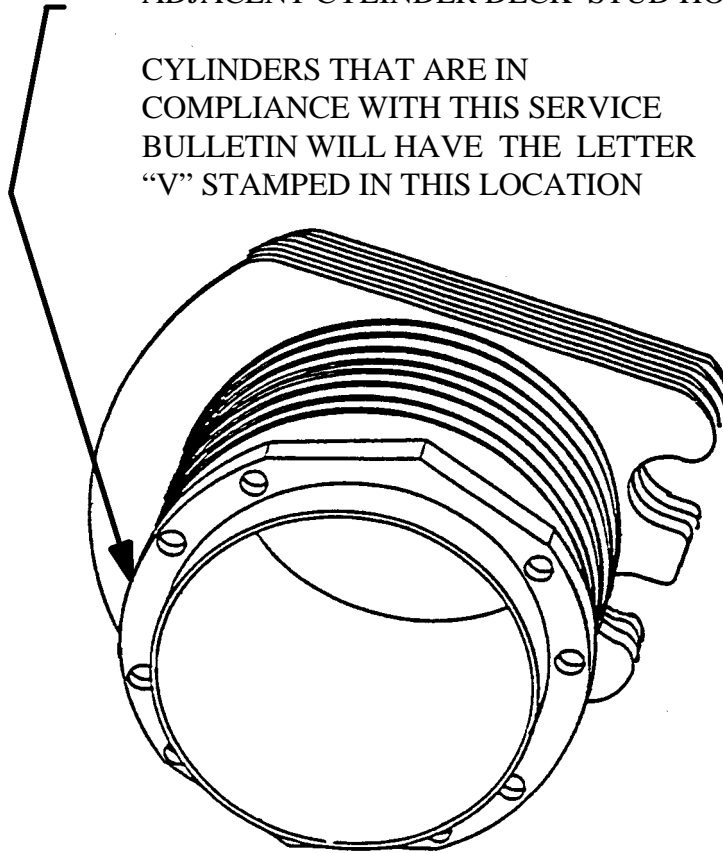

FIGURE 3
CYLINDERS IDENTIFIED WITH A 1/8th INCH HIGH LETTER “V” STEEL STAMPED AT THE 12 O’CLOCK POSITION ON THE CYLINDER FLANGE ARE IN COMPLIANCE WITH THIS SERVICE BULLETIN. REFER TO FIGURE 3. THESE CYLINDERS DO NOT REQUIRE ANY ADDITIONAL INSPECTION.
7. Assemble cylinder(s) with valves having roll-stamped or vibro-etched date code as herein described in accordance with the applicable CM Maintenance and Overhaul Manual. Mark cylinder flange in accordance with Figure 3, using a 1/8th inch high letter "V".
5. Assemble cylinder(s) with valves having roll-stamped or vibro-etched date code as described in Part 1 in accordance with the applicable CM Maintenance and Overhaul Manual. Mark cylinder flange in accordance with Figure 3, using a 1/8th inch high letter “V”.
8. Mark the cylinder with a 1/8th inch high letter “V” at the 12 o’clock position on the cylinder base flange, indicating compliance with this service bulletin. Refer to Figure 3.